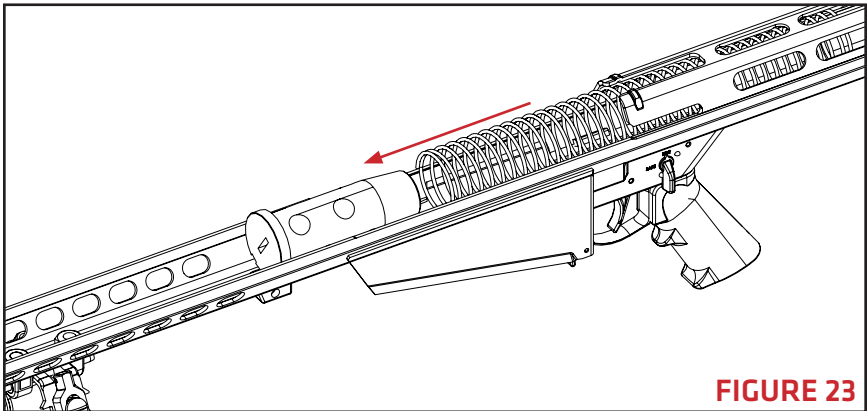

FIGURE 23
2. Allow buffer and mainspring to fully extend then remove (FIGURE 23).